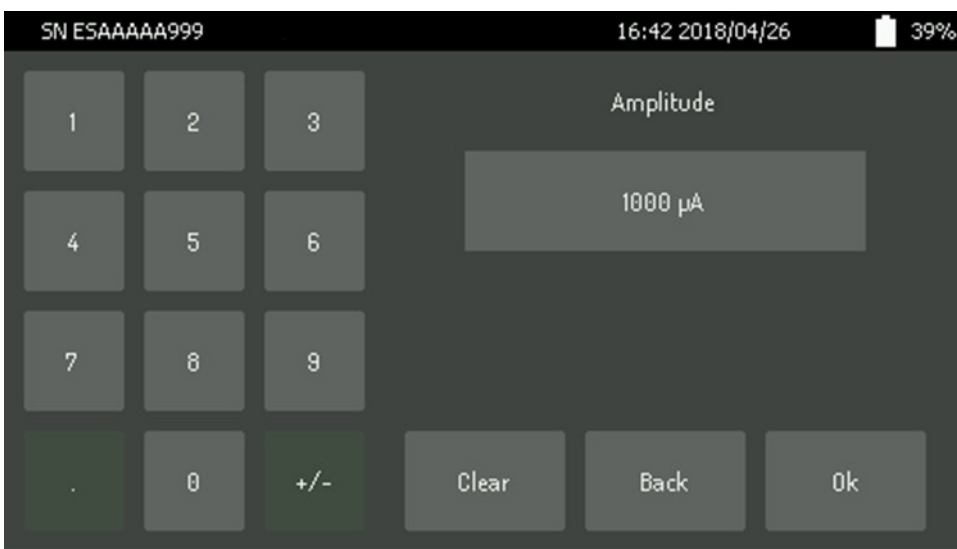

Figure 17. Amplitude entered using the keypad.
- Keypad – when the keypad button  is pressed – the desired levels can be entered via the keypad (Figure 17).